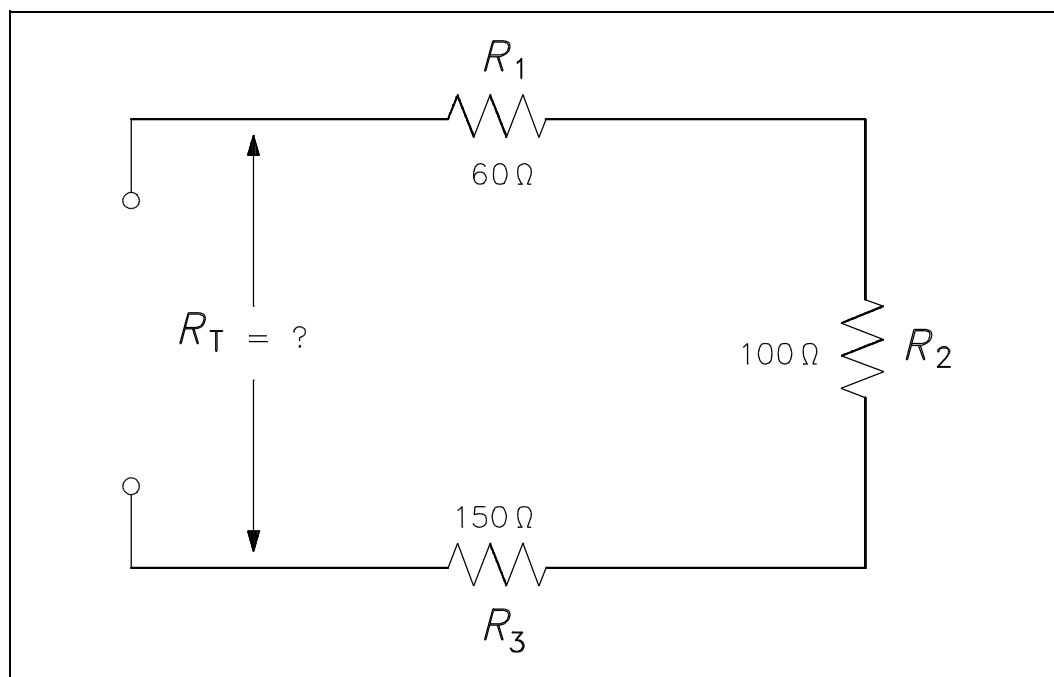

Figure 18 Resistance in a Series Circuit
**Example:**      A series circuit has a  $60\Omega$ , a  $100\Omega$ , and a  $150\Omega$  resistor in series (Figure 18). What is the total resistance of the circuit?